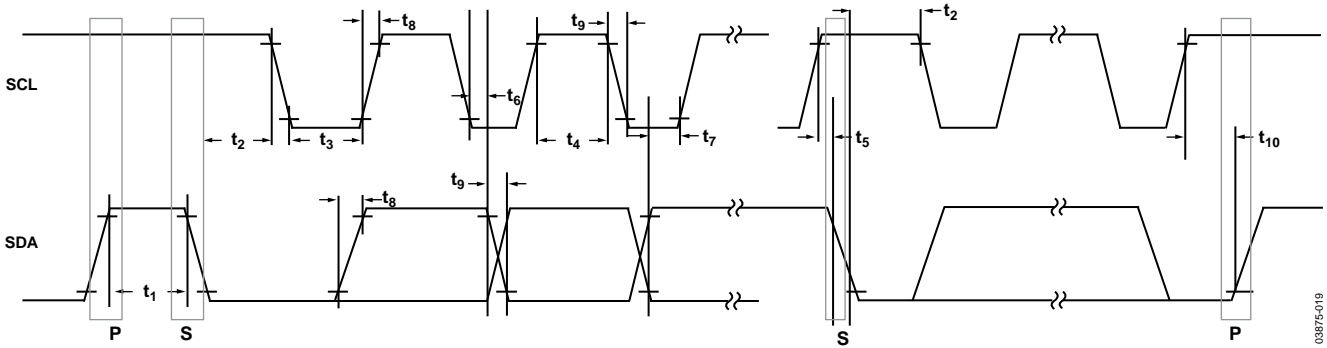
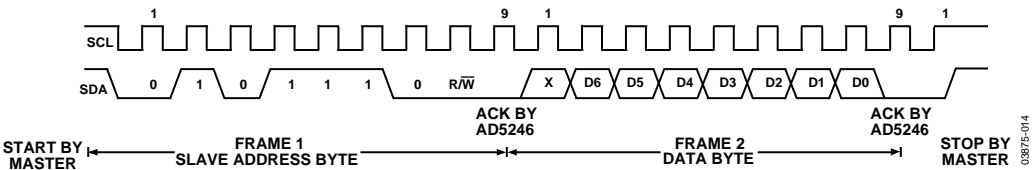
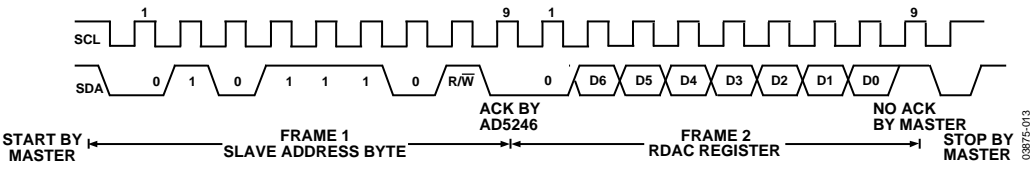

Figure 26. I2C Interface, Detailed Timing Diagram
Figure 27. Writing to the RDAC Register
Figure 28. Reading from the RDAC Register
3 See timing diagrams (Figure 26, Figure 27, and Figure 28) for locations of measured values.
1. The master initiates data transfer by establishing a START condition, which is when a high-to-low transition on the SDA line occurs while SCL is high (see Figure 27). The following byte is the slave address byte, which consists of the 7-bit slave address followed by an  $\overline{\text{R/W}}$  bit (this bit determines whether data will be read from or written to the slave device).
3. In read mode, after acknowledgment of the slave address byte, data is received over the serial bus in sequences of nine clock pulses (a slight difference from the write mode where eight data bits are followed by an acknowledge bit). Similarly, the transitions on the SDA line must occur during the low period of SCL and remain stable during the high period of SCL (see Figure 28).
4. When all data bits have been read or written, a STOP condition is established by the master. A STOP condition is defined as a low-to-high transition on the SDA line while SCL is high. In write mode, the master pulls the SDA line high during the tenth clock pulse to establish a STOP condition (see Figure 27). In read mode, the master issues a No Acknowledge for the ninth clock pulse (that is, the SDA line remains high). The master then brings the SDA line low before the tenth clock pulse, which goes high to establish a STOP condition (see Figure 28).